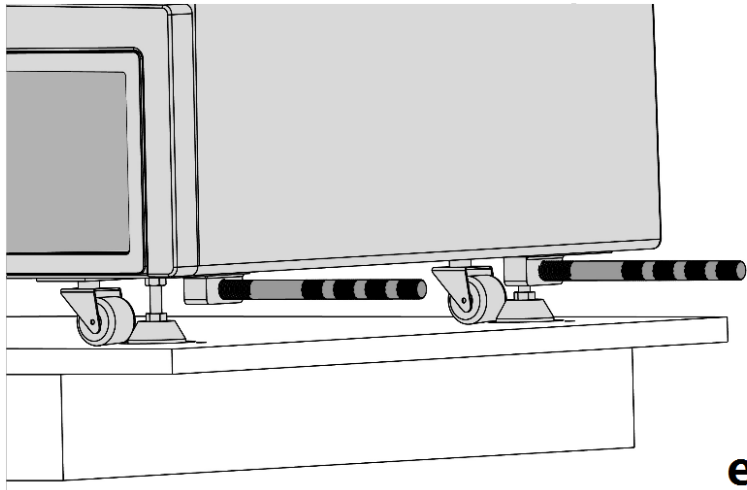

Figure 2-2e. Wooden Case Unpacking Step 5
**5th Step:** Install four transport handles in four installation slots beside the four supporting feet, as shown in figure 2-2e. multiple people hold the transport handles and stabilize the PANA Workstation to lift the instrument out of the wooden case and transport it to the predetermined place. The instrument can be pushed by the transport wheels when passing the smooth ground or slope.